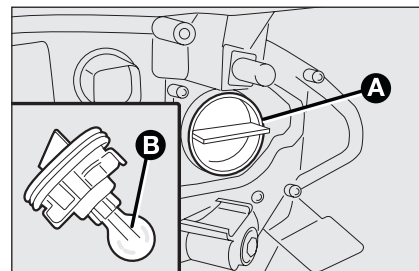

fig. 26
- remove the bulb **B-fig. 26** and replace it;